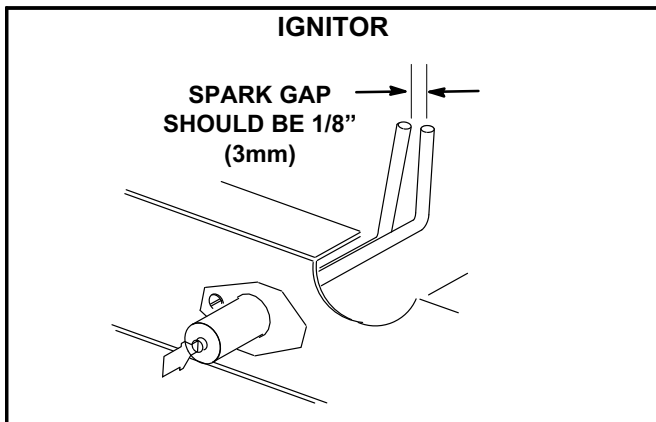

FIGURE 22
- 4- Locate the ignitor under the left burners. Check ignitor spark gap with appropriately sized twist drills or feeler gauges. See figure 22.